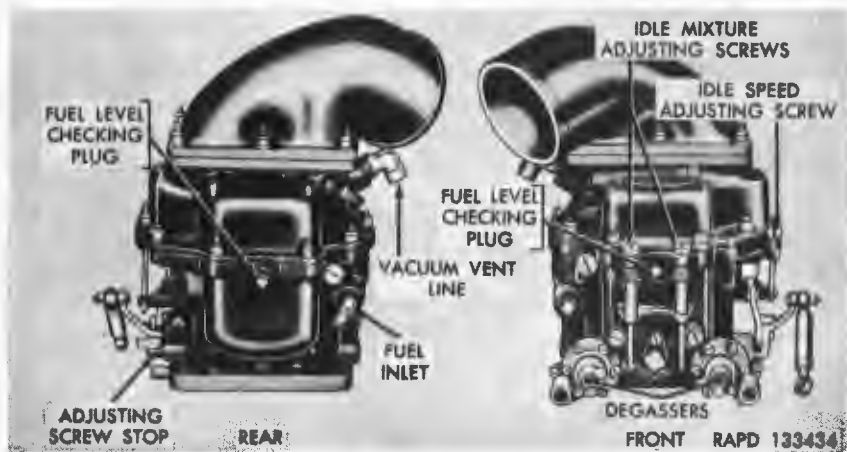

Figure 124. Carburetor, front and rear views.
- (5) *Carburetors.* Two carburetors (fig. 89) are mounted on the accessory end of the engine, one on each side. Each carburetor (fig. 124) is a double-venturi, down-draft unit. The two floats in each carburetor are connected by one lever, which operates one needle valve and seat. Each venturi has a separate main metering and idle system. An accelerating pump provides an extra quantity of fuel momentarily to produce smooth and rapid acceleration.
- (6) *Degassers.* Two degassers (fig. 124) are mounted on the main body of each carburetor which automatically cuts off the fuel supply to the idle circuit of the carburetor to the idle system when high manifold vacuum is present during deceleration periods. In addition, an electric solenoid, controlled by the degasser switch (fuel cutoff) (C-3, fig. 15) located on the instrument panel provides positive shutoff of the fuel supply to insure stopping of the engine before the ignition system is turned off. The engine must be operating at or near the normal idle of 650 rpm for the degassers to be effective.